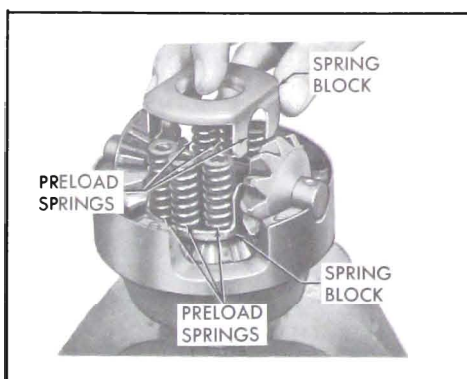

Figure 6-41—Installing Preload Springs & Second Thrust Block Into Differential Case
5. Insert springs into spring thrust block that is already installed into case, and then place second thrust block over springs. See Figure 6-41.